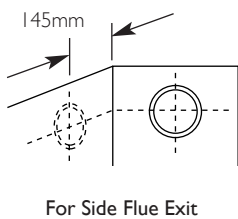

Fig. 24
6. Mark the position of the centre of the flue hole (rear exit). For side flue exit, mark as shown (Fig. 24).